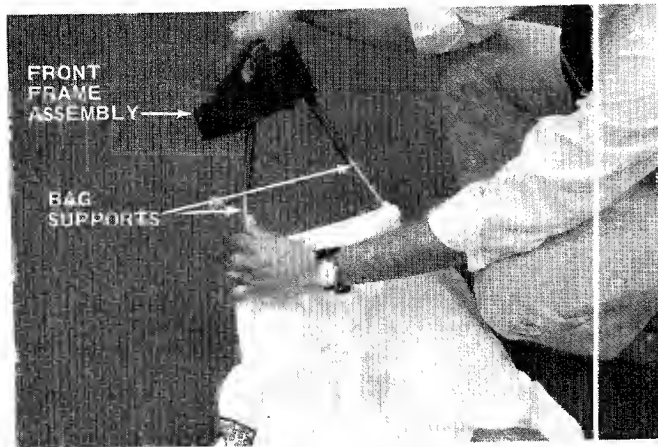

FIGURE 3
4. Insert the front frame assembly (4) into ends of bag supports (2). See figure 3.